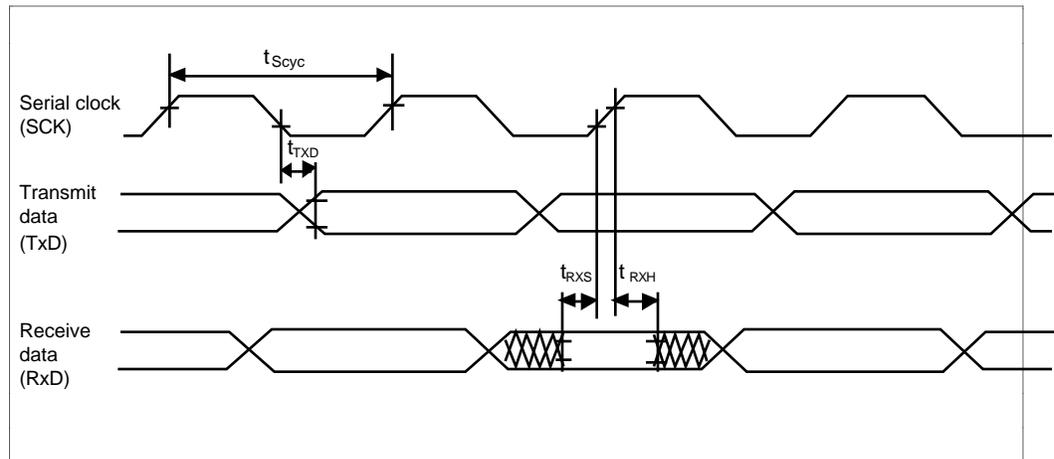

Figure 17-16 SCI Input/Output Timing (Synchronous Mode)
- 17.3.6 SCI Timing Figures 17-16 to 17-17